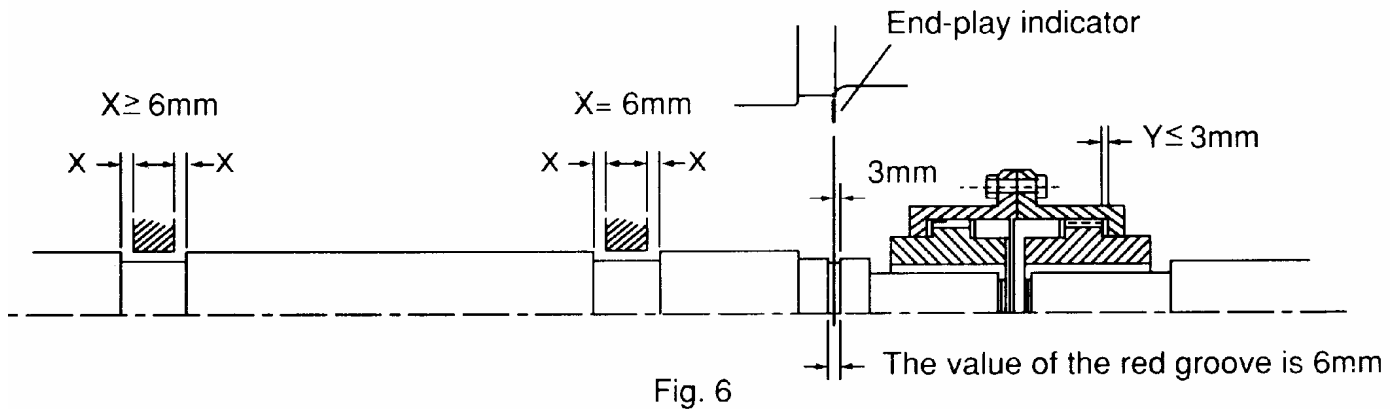

Fig. 6
- Unless otherwise specified, the designed end-play value  $X$  of the groove for TWMC motors in general is within 6mm (.236 in.) as illustrated in Fig. 6. In essence, the endplay indicator is adjusted to point at the center of the groove or the drive-end shaft shoulder; thus  $X$  equals to  $6 \pm 1\text{mm}$  or so, and the endplay value ( $Y$ ) of the couplings should equal or be smaller than 3mm (.118 in.).